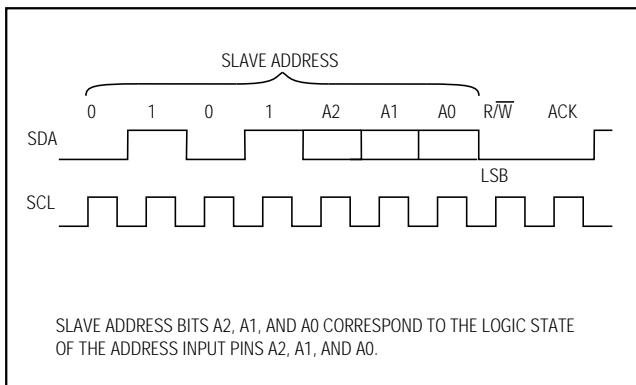
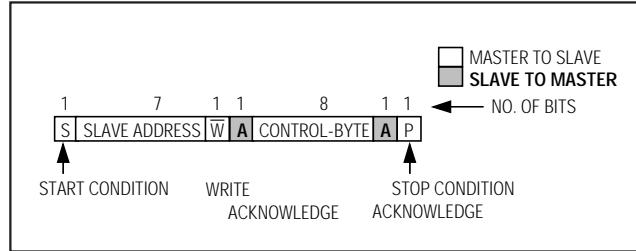
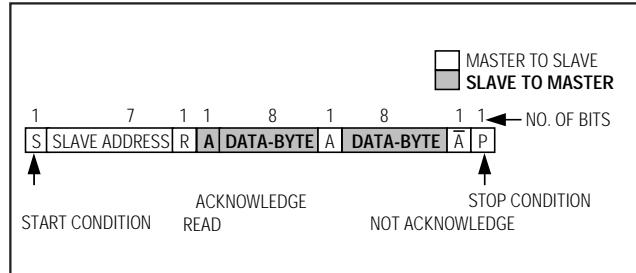
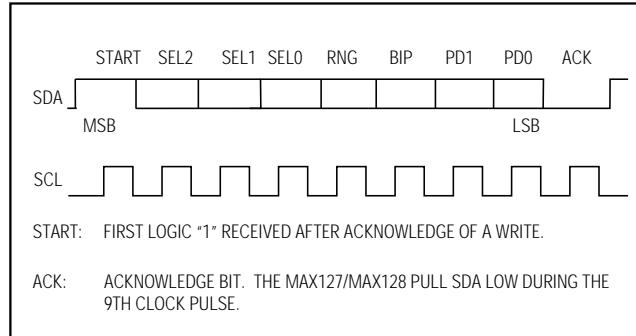

Figure 3. Address Byte
Figure 6. Write Cycle
Figure 7. Read Cycle
Figure 8. Command Byte
The MAX127/MAX128 have a 7-bit-long slave address. The first four bits (MSBs) of the slave address have been factory programmed and are always 0101. The logic state of the address input pins (A2-A0) determine the three LSBs of the device address (Figure 3). A maximum of eight MAX127/MAX128 devices can therefore be connected on the same bus at one time.
A conversion cycle begins with the master issuing a START condition followed by seven address bits (Figure 3) and a write bit ($R/W = 0$). Once the eighth bit has been received and the address matches, the MAX127/MAX128 (the slave) issues an acknowledge by pulling SDA low for one clock cycle ($A = 0$). The master then writes the input control byte to the slave (Figure 8). After this byte of data, the slave issues another acknowledge, pulling SDA low for one clock cycle. The master ends the write cycle by issuing a STOP condition (Figure 6).
Once a conversion starts, the master does not need to wait for the conversion to end before attempting to read the data from the slave. Data access begins with the master issuing a START condition followed by a 7-bit address (Figure 3) and a read bit ($R/W = 1$). Once the eighth bit has been received and the address matches, the slave issues an acknowledge by pulling low on SDA for one clock cycle ($A = 0$) followed by the first byte of serial data (D11-D4, MSB first). After the first byte has been issued by the slave, it releases the bus for the master to issue an acknowledge ($A = 0$). After receiving the acknowledge, the slave issues the second byte (D3-D0 and four zeros) followed by a NOT acknowledge ($\bar{A} = 1$) from the master to indicate that the last data byte has been received. Finally, the master issues a STOP condition (P), ending the read cycle (Figure 7).